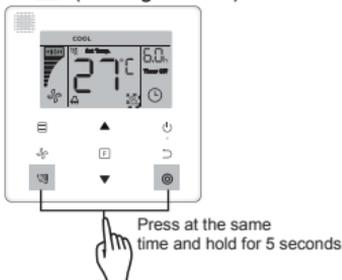

Figure 6.15
- 2) Turn on **"Follow Me"**: When the **"Follow Me"** function is off, Press  (Swing) and  (Confirm) buttons at the same time, and hold for 5 seconds to start the **"Follow Me"** function again, and display its icon  (see Figure 6.15).